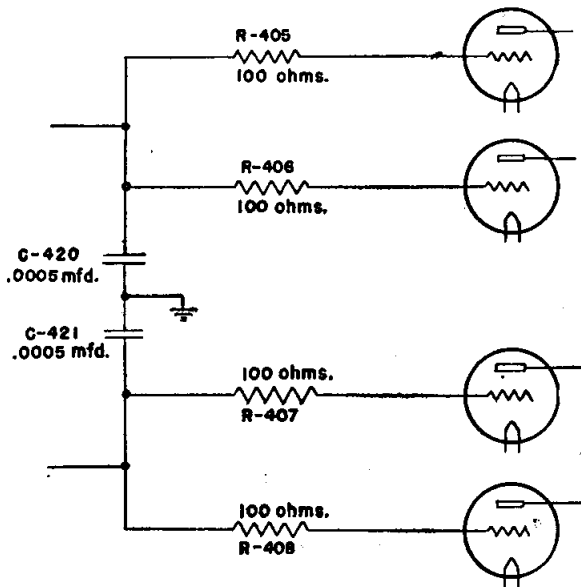

FIGURE 1.—Parasitic suppressor for the Model NMC-1 equipment.
*Procedure.*—(Refer to Fig. 1.)
(1) Place one capacitor between ground and the junction of R-405 and R-406.
(2) Place the other capacitor between ground and the junction of R-407 and R-408.